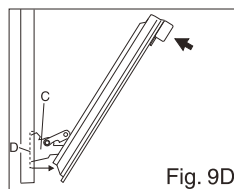

Fig. 9D
- 4 Using both hands, push the oven door lightly inwards, to enable the door hinges "C" to come away from the slots "O" (see fig. 9D) and pull the door towards you until it is released from the oven.